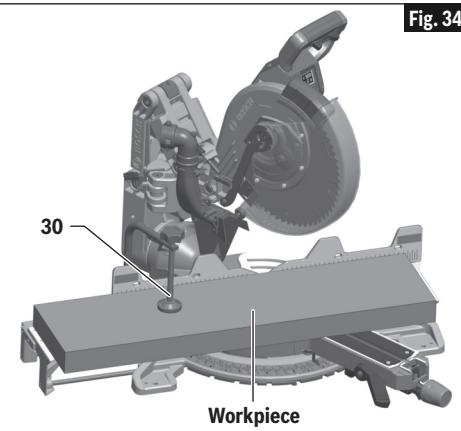

Fig. 34
**Using the Workpiece Clamp** – This clamp **30** easily secures a workpiece to the table or base, see Fig. 34.
**WARNING** Be aware of the path of the saw blade. Make a dry run with the saw Off by conducting a simulated cutting cycle, and observe the projected path of the saw blade. Keep hands at least six (6) inches (152mm) away from the projected path of the saw blade.